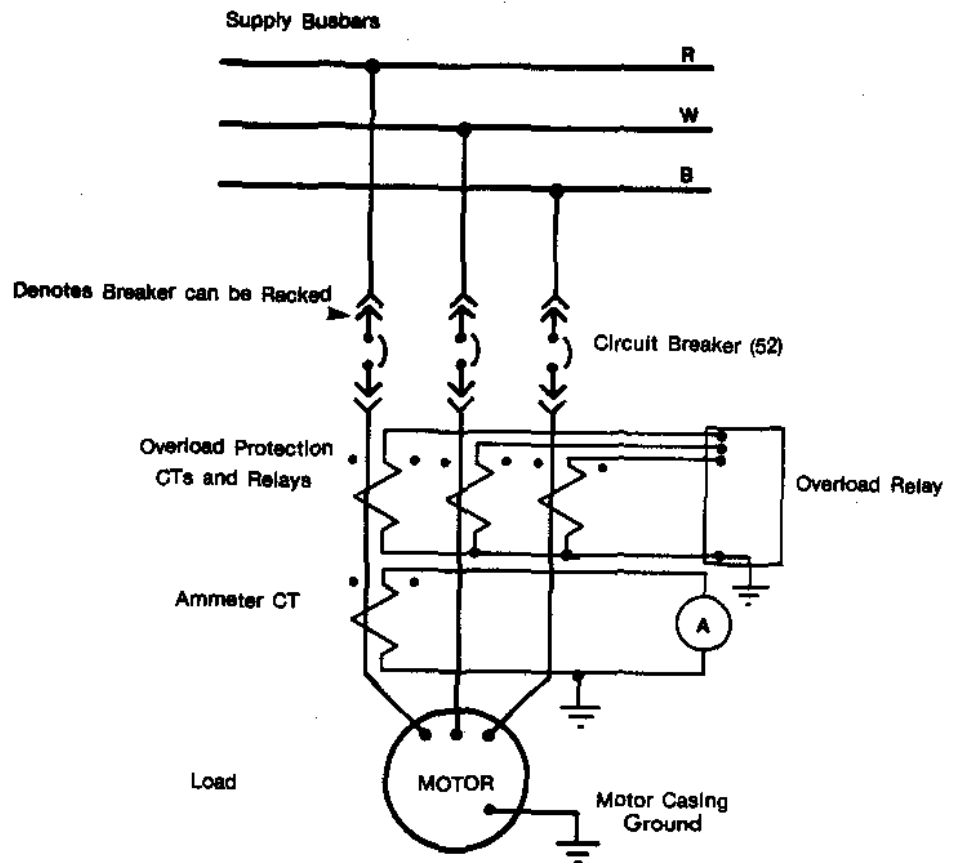

Figure 1: Motor Circuit Controlled by a Rackable Air Circuit Breaker.
4.1.1 Circuit Controlled by an Air Circuit Breaker. Figure 1 shows a typical motor circuit which has the following features:
4. For the circuits shown in Figures 1 and 2, briefly explain the function and purpose of each component. (Section 4.1)